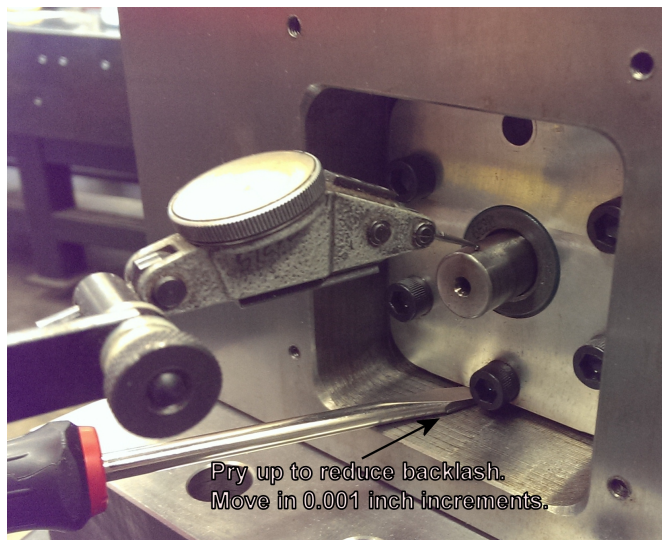

Figure 2: Pry up on bearing mount to reduce backlash, move in 0.001" increments, tighten, retest backlash at rotary table face.
5. Place indicator on the shaft to monitor movement, figure 2..